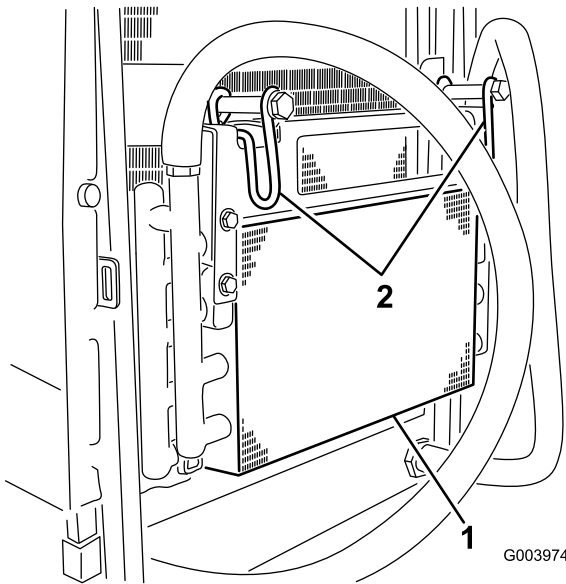

Figure 50
5. Pivot the latches inward to release the oil cooler (Figure 50).